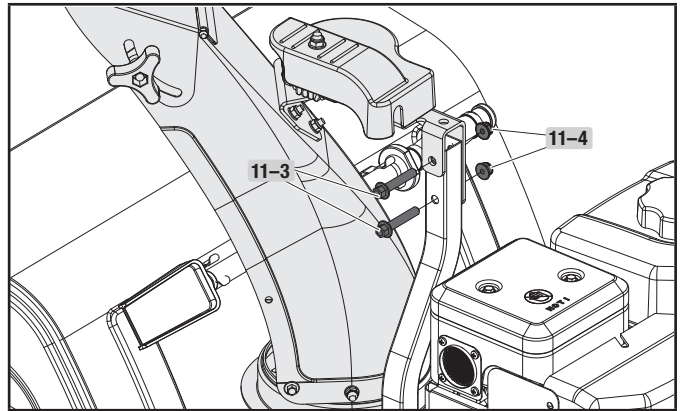

Figure 11B
3. Remove the bolts (11-3) and nuts (11-4) on the snow discharge support. Put the snow discharge chute on the base of unit's body. Attach the snow discharge support using bolts (11-3) and nuts (11-4) (Fig. 11B).